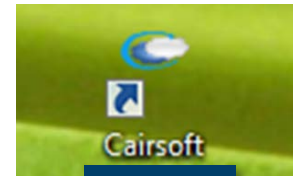

Figure 4
2. Start the CairSoft software by clicking the **CairSoft** icon (Figure 4) that was created on the desktop during software installation. The login screen shown in Figure 5 will then display for a few seconds.